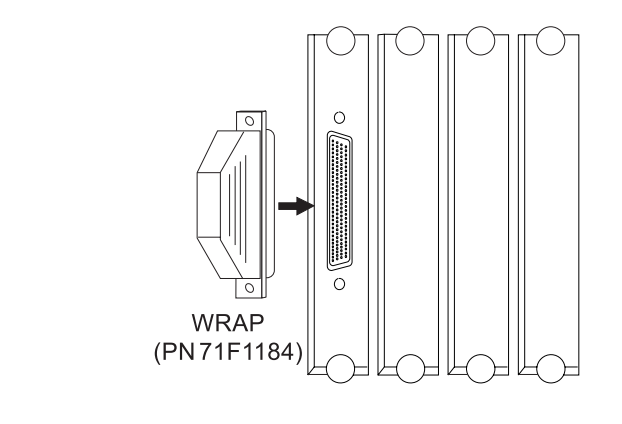

Figure 1-6. Adapter Wrap Test Connection
1. The adapter, see Figure 1-6